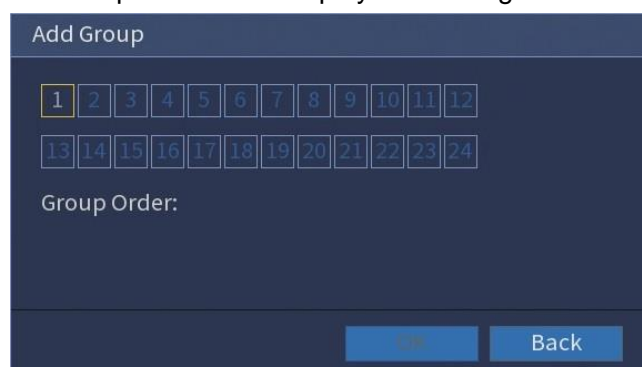

Figure 5-37
1. Click **Add**. The Add Group interface is displayed. See Figure 5-37.